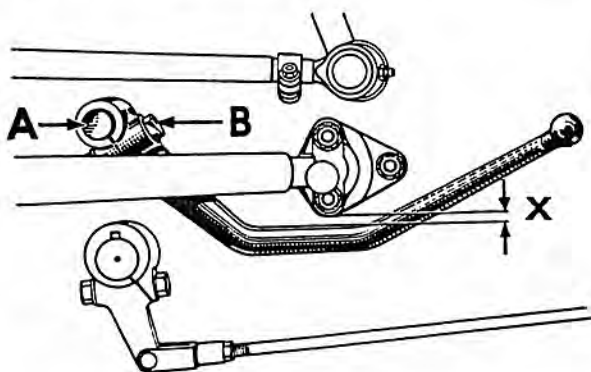

FIG. 4
PEDAL ADJUSTMENT FIG. 4.
When making this adjustment, measurements are taken between the upper side of the pedal and the underside of the footrest bracket, as indicated at (X) in Fig. 4. Clutch adjustment is correct when free movement, or travel before the withdrawal bearing begins to engage, is $\frac{3}{4}$ " (19 mm.) single clutch and $\frac{3}{8}$ " (9.5 mm.) dual clutch.